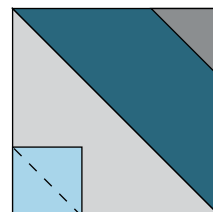
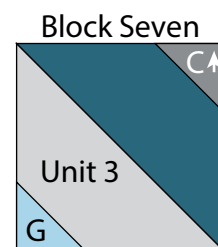

Fig. 17
Fig. 18
8. Follow Figure 17 for the seam direction to add a 5 ½" Fabric G square to the lower left corner of the Unit 3 square to make (1) Block Seven square (Fig. 18).